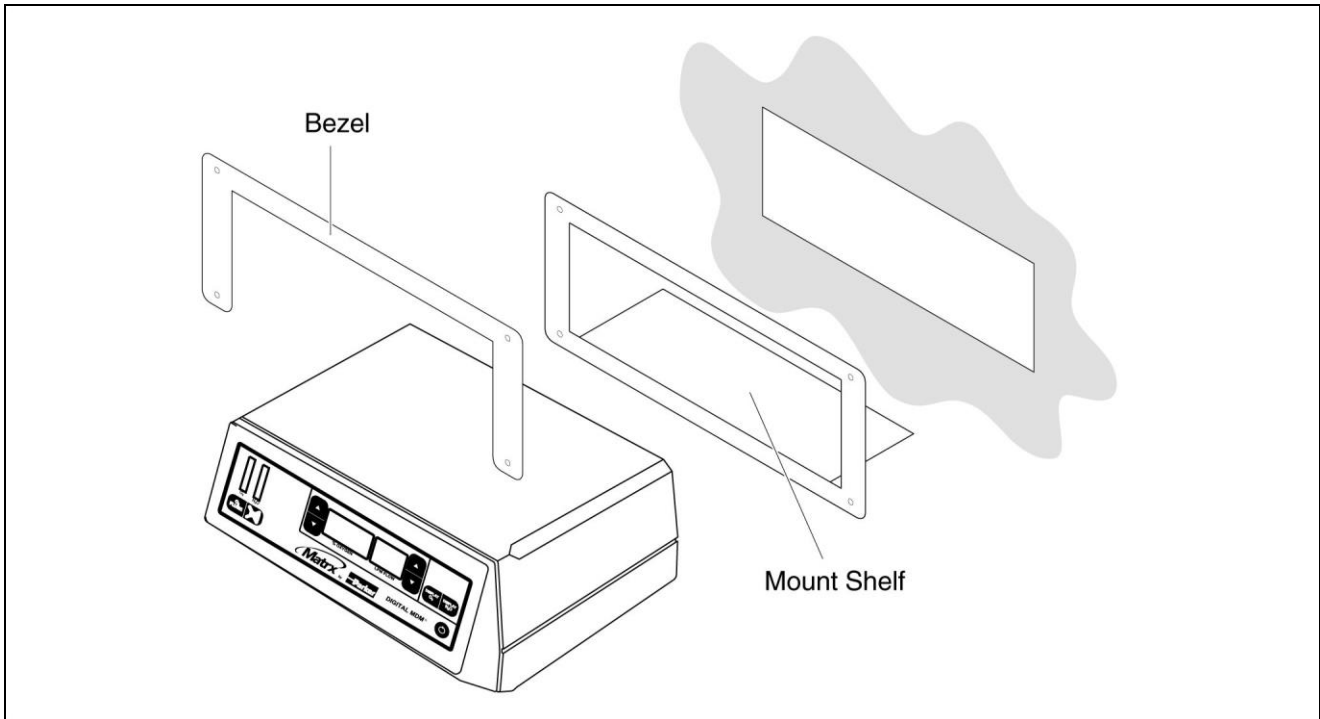

Figure 5. Digital MDM® Mixer Head Installation
8. Align the mounting shelf and bezel assembly with the mounting holes, and slide it into the cutout area. See Figure 5.